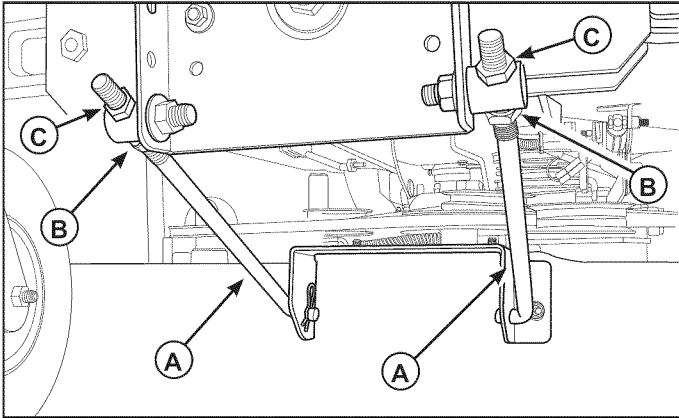

Figure 25. Mower Leveling - Front-to-Back
8. The front hitch rods (A, Figure 25) are used to adjust front-to-back leveling. To raise or lower the front of the mower deck, loosen the rear jam nuts (B) on both front hitch rods. Adjust the front jam nuts (C) on both hitch rods to adjust the mower deck level. When adjusted correctly, tighten the rear jam nuts to lock the front hitch rods in place.